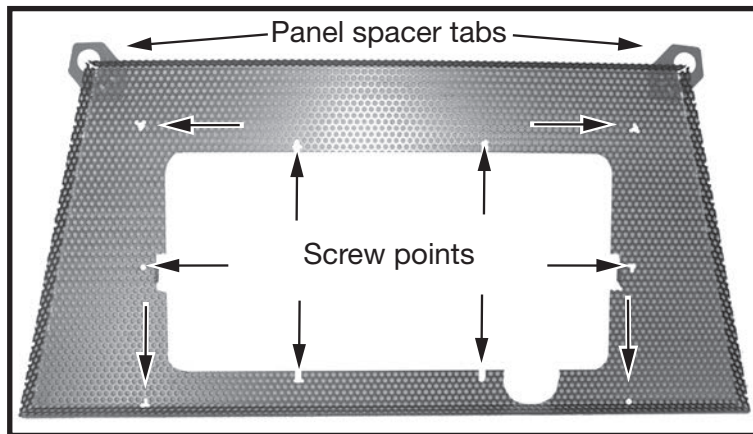

Figure 50: Glass burner tray with panel tabs and screw down points.
1. With the interior panels and the ceramic glass baffle installed, place the glass burner tray (Figure 50) inside and over the burners and secure in place (total of 10 screws to be used). The panel spacer tabs will hold the panels against the firebox walls to allow for adequate air flow around the perimeter of the burner tray. Place the decorative front edge plate (Figure 51) so that it hooks over the edge of the burner tray. This plate does not fasten to anything and simply rests in place.